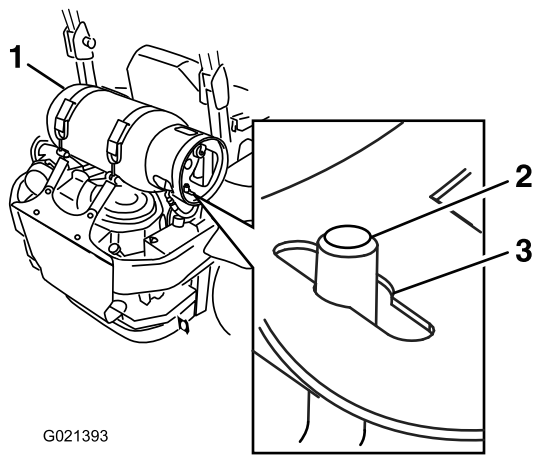

Figure 8
11. Align the center hole over the mounting pin that points straight up on the mower as shown in Figure 8.